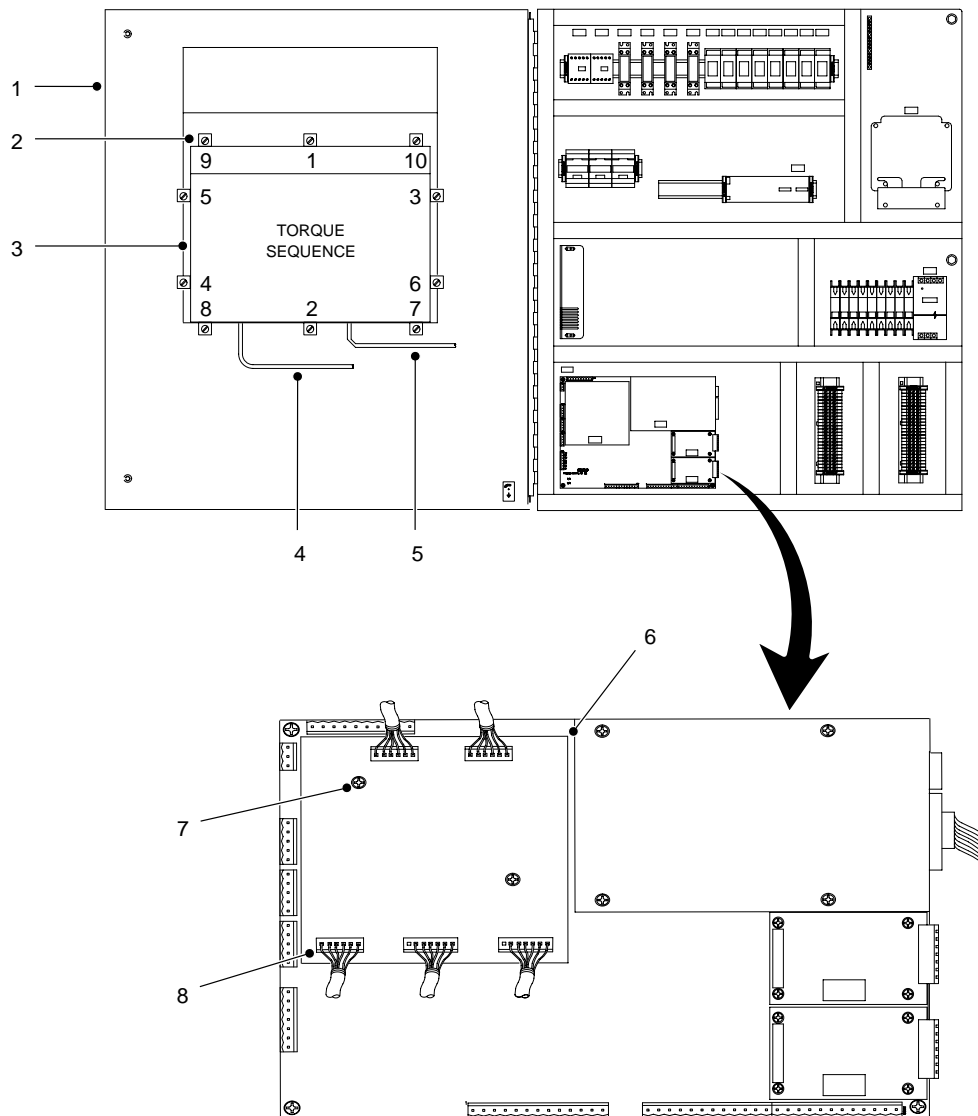

Figure 12 Typical Repairs
2. See Figure 12. Open the enclosure door (1).
3. Disconnect the AC (4) and Serial (5) cables from the operator interface (3).
4. Remove the mounting clips (2) securing the operator interface (3) to the enclosure door (1). Remove the operator interface from the enclosure door (1).
5. Make sure that the sealing gasket on the operator interface (3) is properly positioned.
6. Install the new operator interface (3) into the enclosure door (1).
7. Install the mounting clips (2). Using the torque sequence shown in Figure 12, tighten the mounting clips to 10 in.-lb (1.1 N•m).
8. Connect the AC (4) and Serial (5) cables to the operator interface (3).
9. Close the enclosure door (1).
3. Disconnect the electrical connectors (8) from the PCA (6).
4. Remove the screws (7) from the PCA (6).
5. Install the new PCA using the screws (7). Do not over tighten the screws.
6. Connect the electrical connectors (8).
7. Close the enclosure door (1).